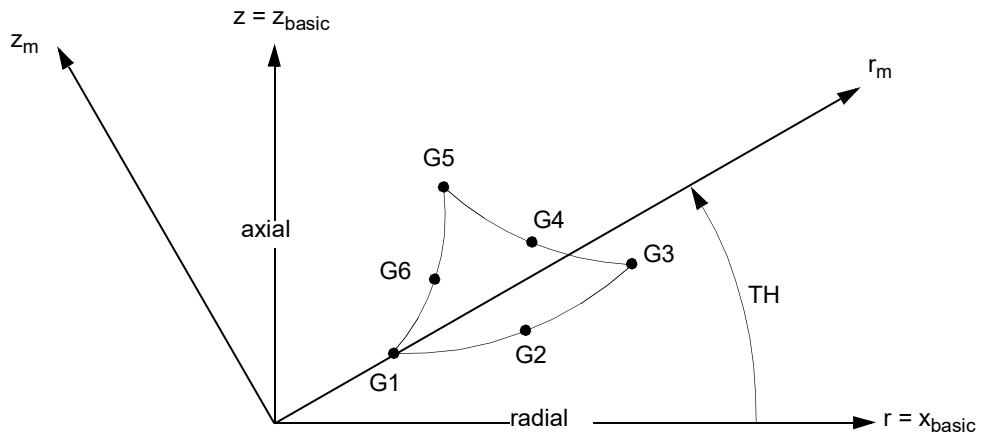

Figure 9-80 CTRIA6 Element Geometry and Coordinate Systems
4. Material properties (if defined on a MAT3 entry) and stresses are given in the (r_m, z_m) coordinate system shown in Figure 9-80.